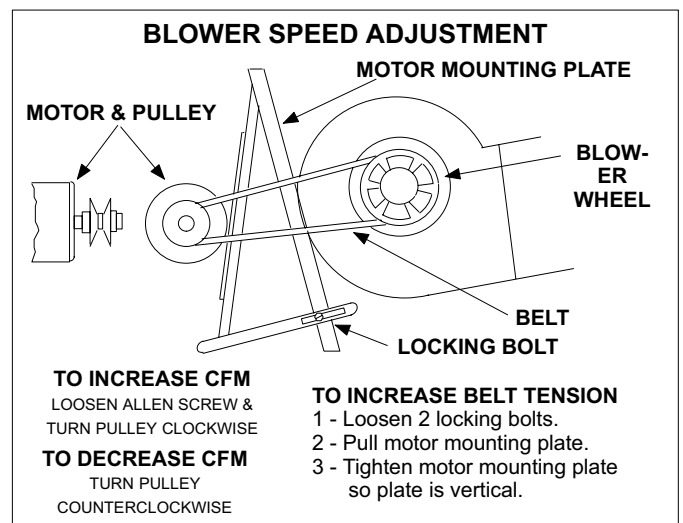

FIGURE 27
- 2 - Loosen Allen screw on pulley (figure 27).
NOTE-Tension new belt after 24-48 hours of operation. This allows the belt to stretch and seat in the groove. To increase tension, loosen locking bolt and pull motor mounting plate. Tighten the two bolts so mounting plate is vertical. See figure 27.